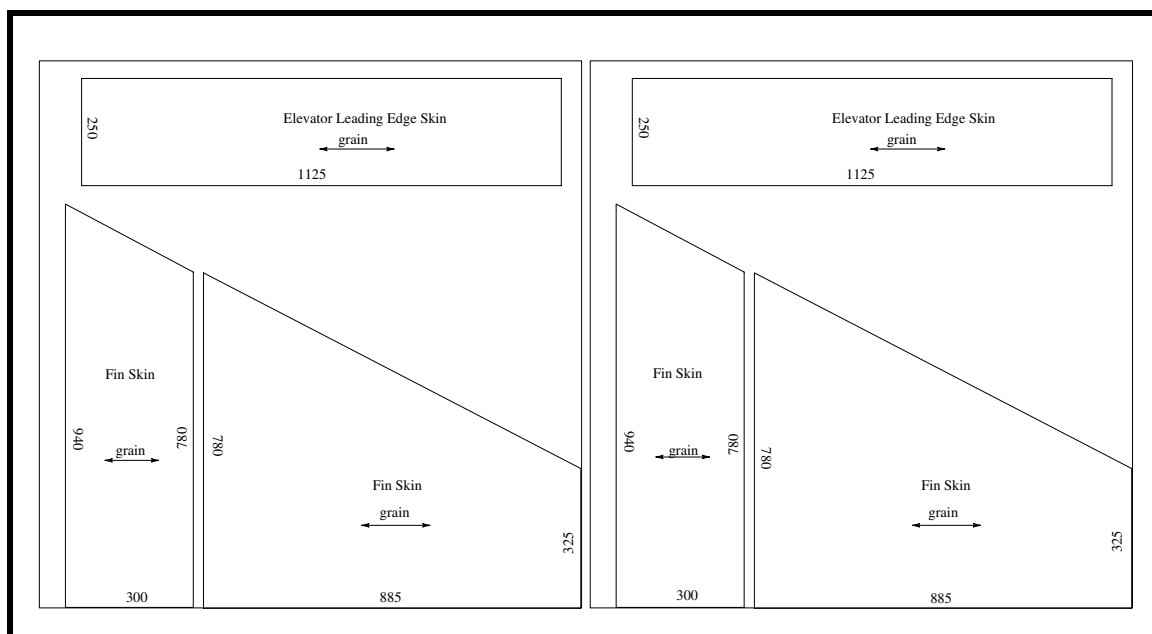

Figure 6
- ❑ Use two 50"x50" sheets of 1.5mm birch plywood and cut in accordance with Figure 6.